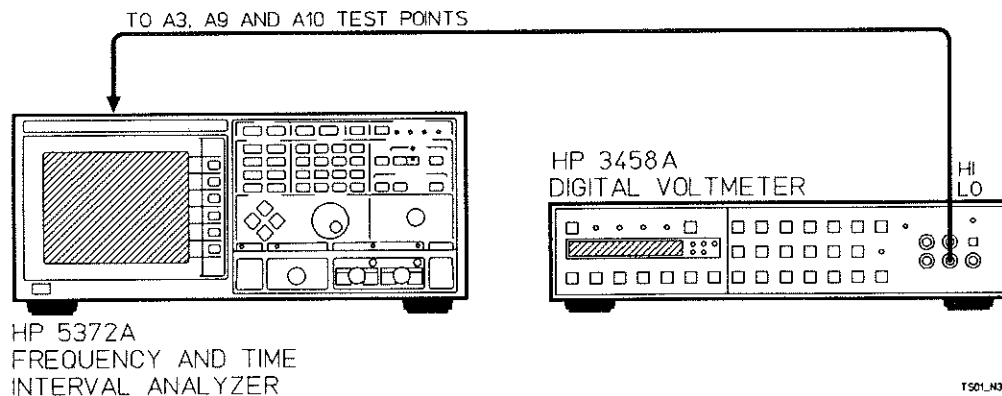

Figure 3-1. A9 and A10 Power Supply Adjustment Setup
**Test Setup:** See Figure 3-1.